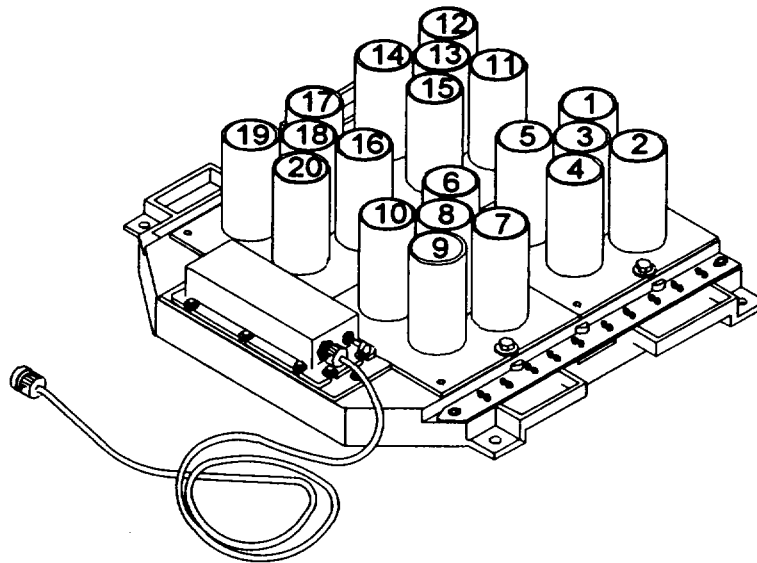

Figure 2-6. Firing Tubes Numbering.
- (3) Loading of each firing tube assembly starts at its inner most firing tube and is loaded to the outer most firing tube. This provides the maximum operator safety. Refer to figure 2-6 for numbering of the tubes. Starting from the rear right hand cluster of tubes the following loading sequence must be followed:
- (4) Carefully uncoil the ignition leads (4) to the cartridge, and install the cartridge into the firing tube with styrofoam end up.
- (5) Run the leads to the corresponding output receptacle in sequence beginning with tube number one. See figure 2-6.
- (6) Remove shorting safety cap (5) from the cartridge ignition plug, and install the plug into the output receptacle corresponding to the firing tube. Save safety caps for possible use in capping misfires.
- (7) Repeat steps (1) through (6) for each of the twenty positions.
- (7) Immediately move 100 feet away and wait 15 minutes.
- (8) After the 15 minute wait: remove unfired round, coil ignition leads and place on top of simulator, and store in suitable container. Surround with sand, cover, and leave in area suitable for temporary storage.
- (9) Transfer to the servicing ammunition supply point.
b. Unloading Procedures: Unloading procedures for the GUFs are as stated below. Unload GUFs in the following sequence. (Refer to figure 2-6.)
- (1) Tube positions 2, 4, 3, 1, and 5
- (2) Tube positions 7, 9, 8, 6, and 10
- (3) Tube positions 14, 12, 13, 11, and 15
- (4) Tube positions 19, 17, 18, 16, and 20